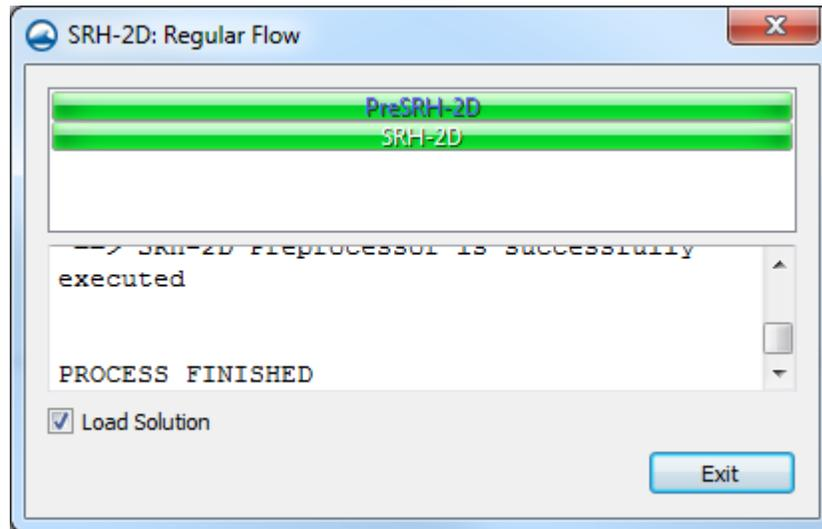

Figure 6 SMS model wrapper
4. Make sure the *Load Solution* box in the SMS model wrapper is checked, as shown in Figure 6, then click **Exit**.